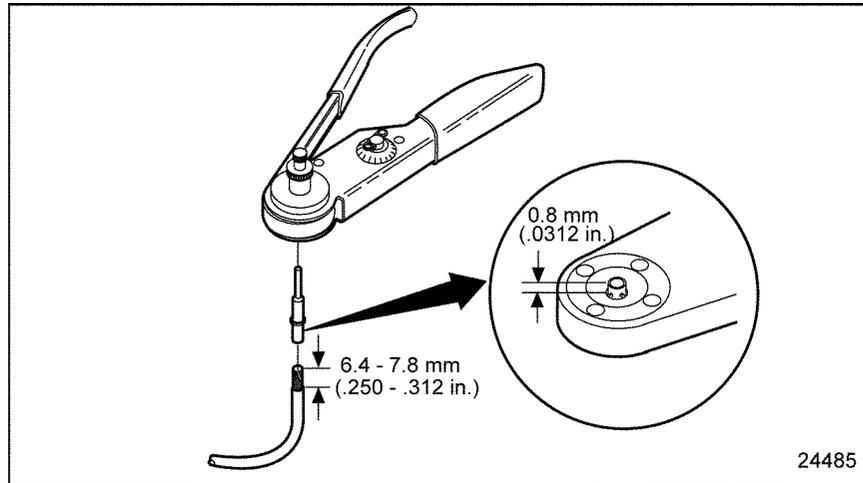

Figure 3-14 **Setting Wire Gage Selector and Positioning the Contact**
4. Position the contact so that the crimp barrel is 1/32 of an inch above the four indenters. See Figure 3-14. Crimp the cable.